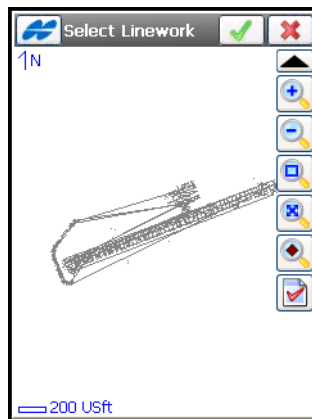

Figure 7-36. Select Linework from Map
- **From Map:** opens the *Select Linework* screen (Figure 7-36). Double-tap the desired line to highlight the linework on the map.